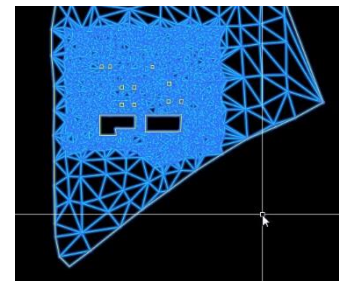

Figure 33: Graphically Select Surface in Civil 3D
- Graphically select the surface you would like to import and press Ctrl+C (Figure 33)